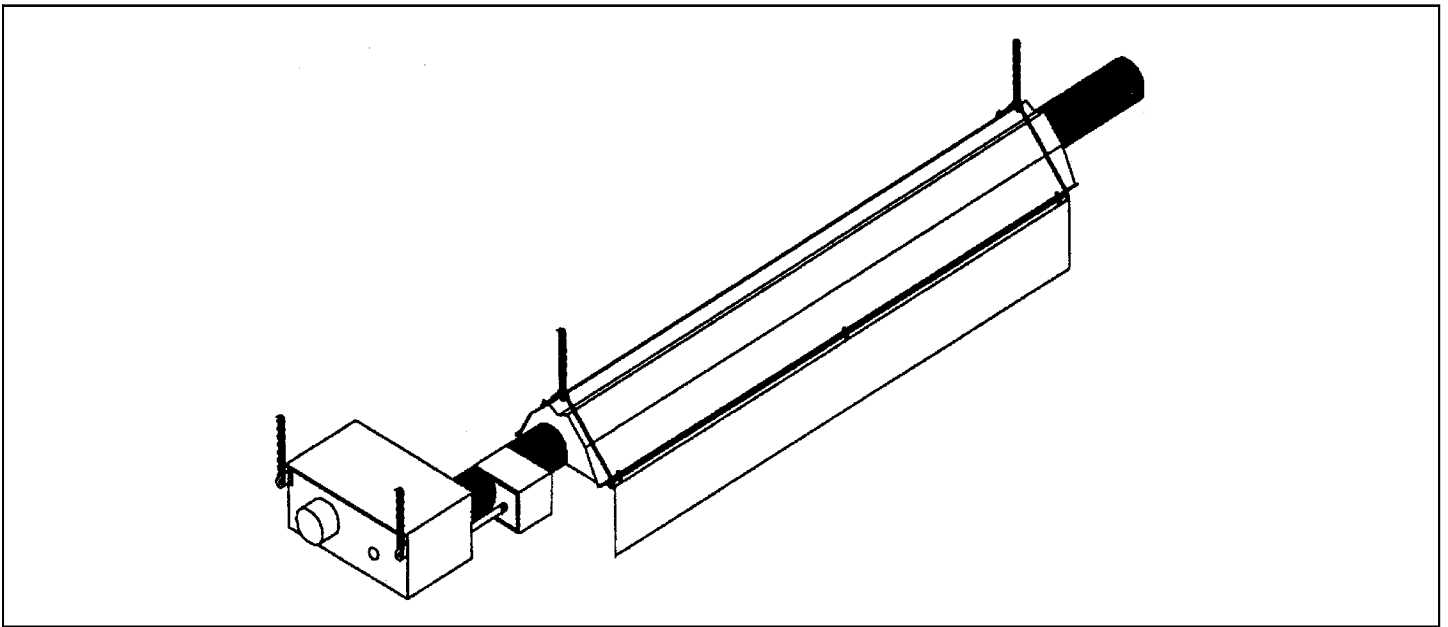

Figure 2-14
2. Install the side shield by hooking the edge holes onto the RCSs (Figure 2-14).